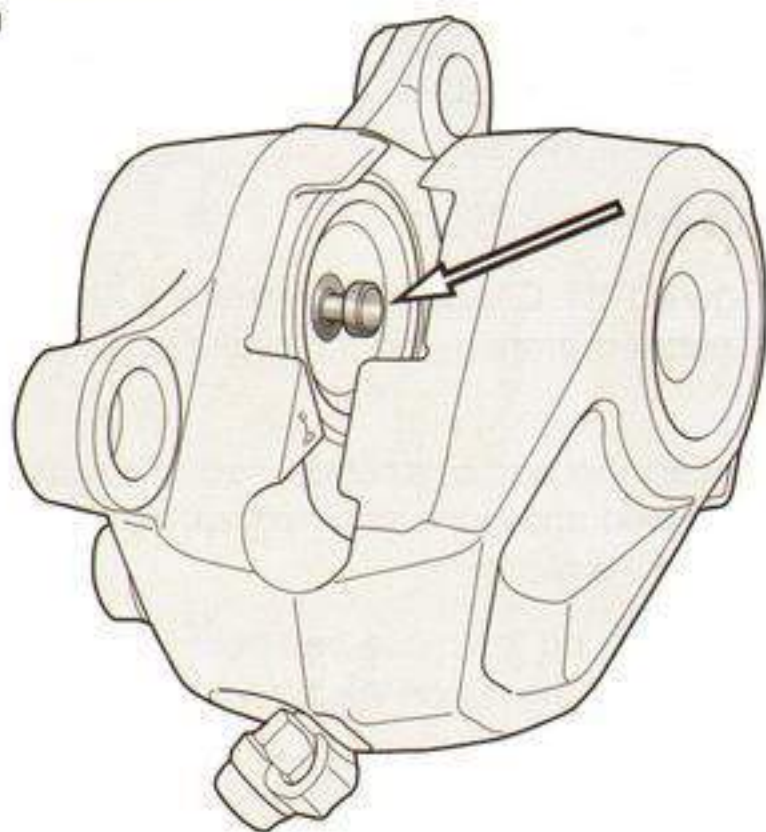

Figure 1-35. Rear Caliper Piston Lug for Pad Retaining Spring
- See Figure 1-34 and Figure 1-35. On the rear brake caliper, the brake pads have a hole in the backing plate (1) that fits on a lug on the back of the piston. There is an area manufactured onto the brake pad backing plate that allows a brake pad retaining spring (2) to lock into the backing plate. The brake pad fits onto a lug on the back of the caliper piston and locks into the retaining spring.